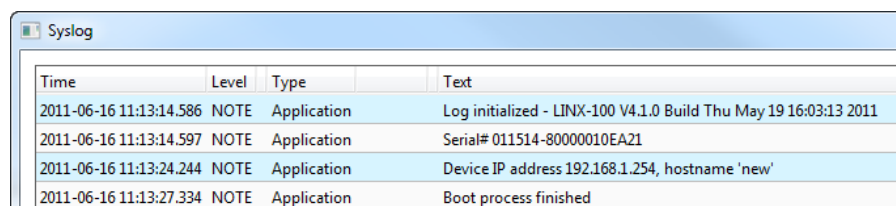

Figure 134: System log window.
3. When the upload is finished, click on **Show System Log**. The system log window appears as shown in Figure 134.